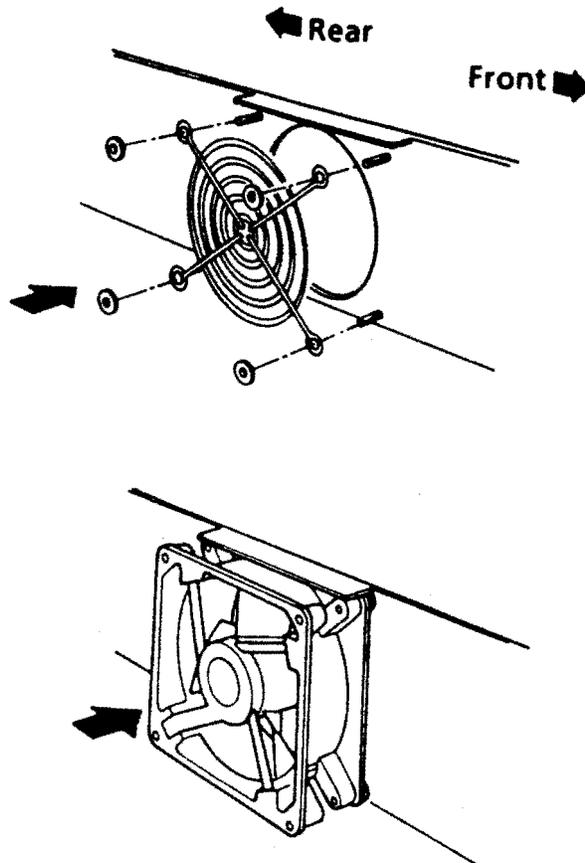

Figure 6-27: Rear Fan Installation
2. Place the guard over the screws, with the circular wires of the guard against the chassis (Figure 6-27).